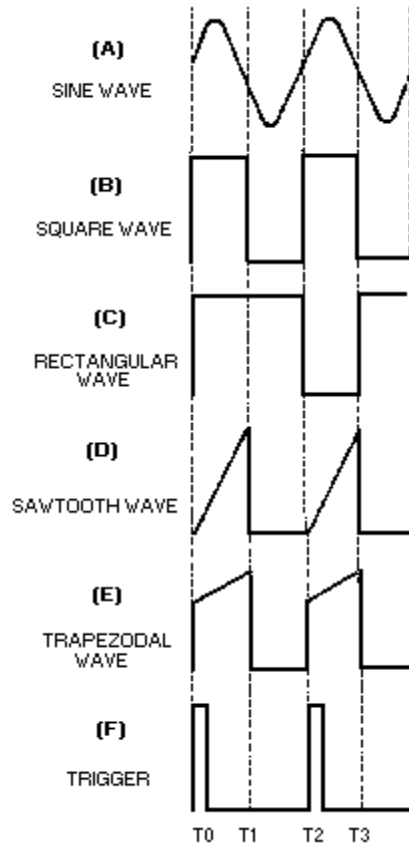
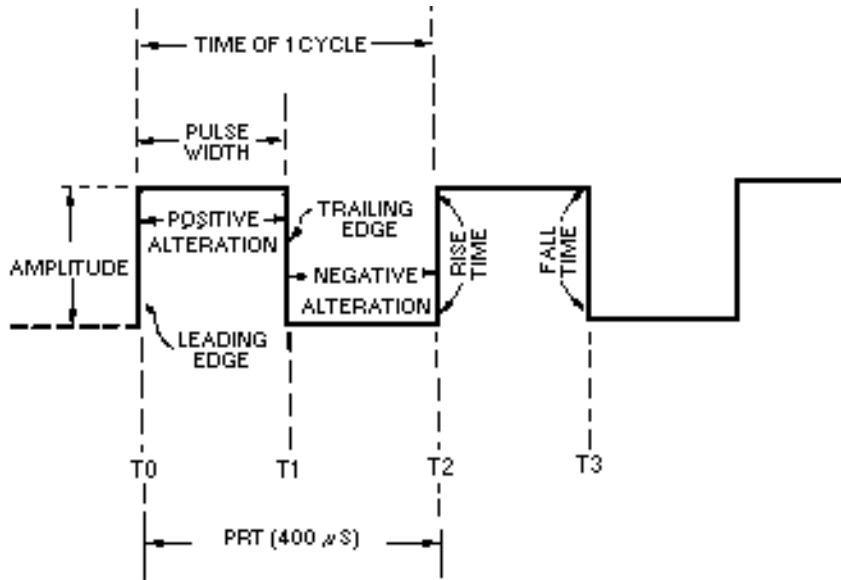

Figure 3-1.—Periodic waveforms.
Figure 3-2.—Square wave.
Each completed pattern of a periodic waveform is called a CYCLE, as shown by the SINE WAVE in figure 3-1, view (A). Sine waves were presented in NEETS, Module 2, *Alternating Current and Transformers*, Chapter 1.
A SQUARE WAVE is shown in figure 3-1, view (B). As shown, it has two alternations of equal duration and a square presentation for each complete cycle. Figure 3-2 shows a breakdown of the square wave and is the figure you should view throughout the square wave discussion. The amplitude is measured vertically. The time for a complete cycle is measured between corresponding points on the wave (T0 to T2, or T1 to T3).
One alternation is called a PULSE. The time for one complete cycle is called the PULSE-REPETITION TIME (prt). The number of times in 1 second that the cycle repeats itself is called the PULSE-REPETITION FREQUENCY (prf) or PULSE-REPETITION RATE (pr). If each alternation in figure 3-2 is 200 microseconds ( $\mu s$ ), the prt will be 400 microseconds, and the prf will be 2,500 hertz. The following examples are provided to illustrate the mathematical relationship between prf and prt:
A rectangular wave is similar to the square wave. The difference is that in the rectangular waveform, the two alternations of the waveform are of unequal time duration. Figure 3-1, view (C), shows that the negative alternation (pulse) is shorter (in time) than the positive alternation. The negative alternation could be represented as the longer of the two alternations. Either way, the appearance is that of a rectangle.
The SAWTOOTH waveform is shown in figure 3-1, view (D). A sawtooth wave resembles the teeth of a saw blade. There is a rapid vertical rise of voltage from T0 to T1, which is linear (straight). At T1 this voltage abruptly falls (essentially no time used) to its previous static value. The voltage remains at this value until T2 when it again has a linear rise. You can see this action in an oscilloscope where there are two voltage input locations, vertical and horizontal. If you apply a linear voltage to the vertical input, the electron beam will be forced to move in a vertical direction on the crt. A linear voltage applied to the horizontal input will cause the electron beam to move horizontally across the crt. The application of two linear voltages, one to the vertical input and one to the horizontal input at the same time, will cause the
A TRAPEZOIDAL wave looks like a sawtooth wave on top of a square or rectangular wave, as shown in figure 3-1, view (E). The leading edge of a trapezoidal wave is called the JUMP voltage. The next portion of the wave is the linear rise or SLOPE. The trailing edge is called the FALL or DECAY. A trapezoidal wave is used to furnish deflection current in the electromagnetic cathode ray tube and is found in television and radar display systems. Electromagnetic cathode ray tubes use coils for the deflection system, and a linear rise in current is required for an accurate horizontal display. The square or rectangular wave portion provides the jump voltage for a linear rise in current through the resistance of the coil. This will be explained further in a discussion of the trapezoidal sweep generator.
A trigger is a very narrow pulse, as shown in figure 3-1, view (F). Trigger pulses are normally used to turn other circuits on or off.